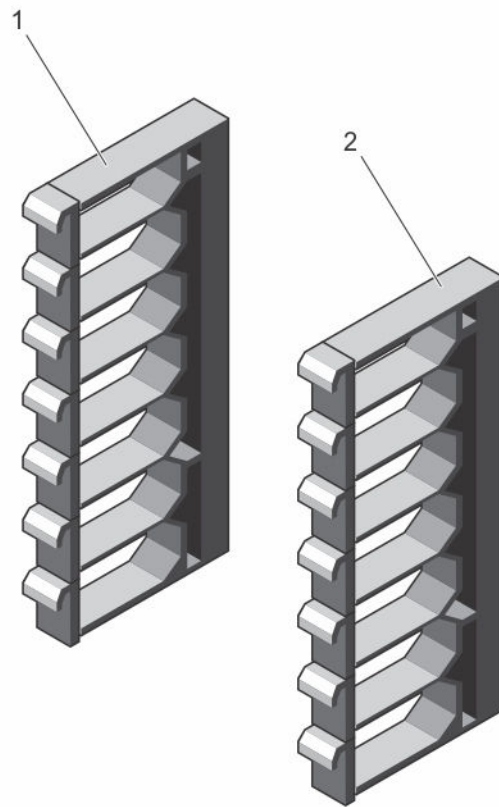

Figure 25. Cable Management System
The cable management system consists of two brackets (items 1 and 2 in Figure 25) and is shipped as part of the C9010 base configuration.